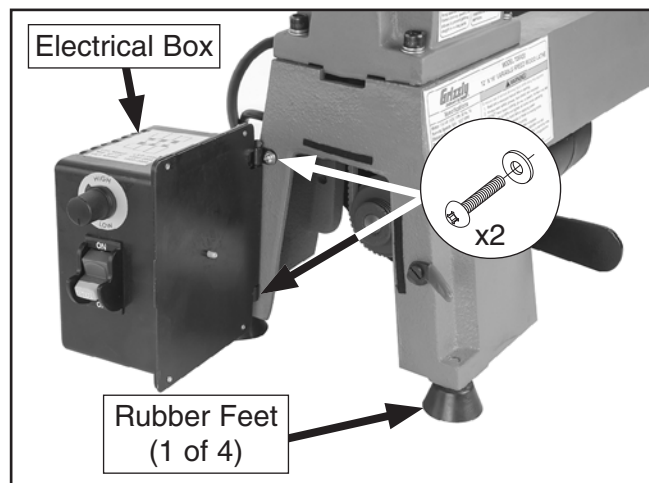

Figure 2. Rubber feet and electrical box installed.
1. Thread four included rubber feet into mounting holes (see **Figure 2**). Adjust feet until lathe sits level, without rocking.
2. Use two pre-installed Phillips head screws and flat washers to attach electrical box to lathe, as shown in **Figure 2**.